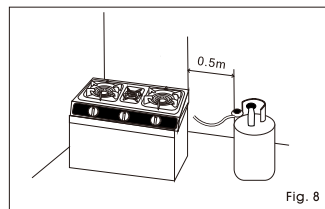

Fig. 8
- The gas cylinder should stand away at least 0.5m from the cooker. (Fig. 8)
- The gas cylinder should stand away at least 0.5m from the cooker.(Fig. 8)